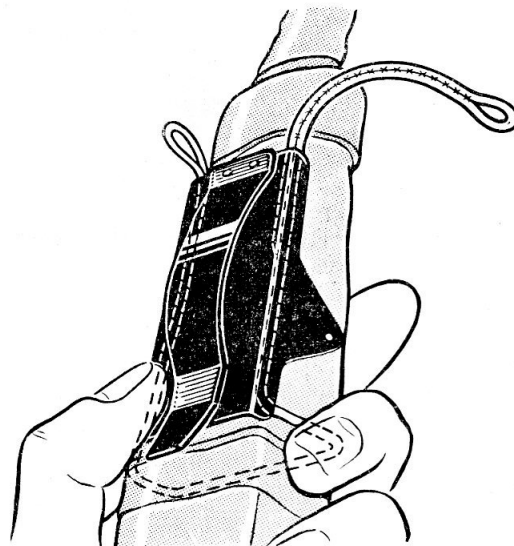

Fig. 8. Connecting the beacon to the battery switch pin—2nd stage
(3) Pass the cord round the beacon and again thread it under the clip and position it as shown in fig. 8.